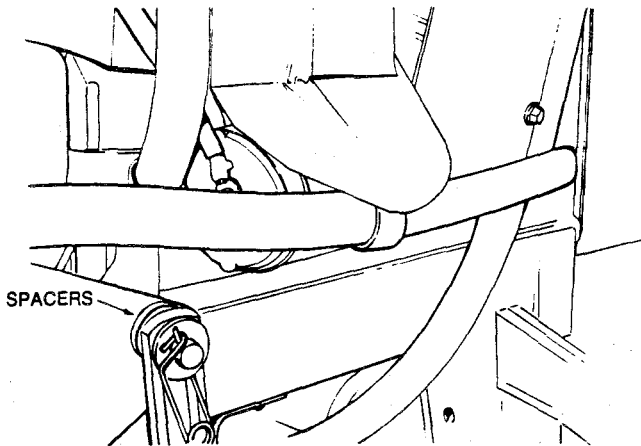

FIGURE 1. SHEET METAL MODIFICATION FOR STARTER
- Starter and starter wiring (Figure 1)
- Hydraulic oil cooler line (Figure 1)
1. Two 3/16 inch thick spacers are needed when mounting the snowblower attachment. They are used to keep snow-blower attachment bracket away from the engine and lower oil cooler line. (Figure 1)